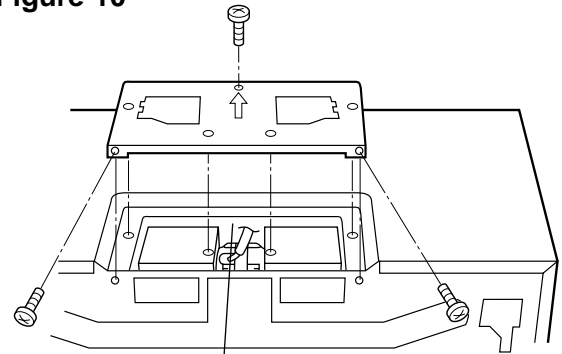

Figure 12
4. Put the lead wire into Wire Box. See Figure 12.
5. Replace the Fan Cover Bracket by sliding it into the slits in the same direction as the arrow on the Fan Cover Bracket. Make sure the fan blades are visible through the rear openings in the oven before proceeding. Attach Fan Cover Bracket to unit with 3 screws, which were removed in Step 1 above. See Figure 12. The Hood Fan Unit is now rotated for horizontal exhaust operation.
5. Replace the Fan Cover Bracket by sliding it into the slits in the same direction as the arrow on the Fan Cover Bracket. Make sure the fan blades are visible through the top openings in the oven before proceeding. Attach the Fan Cover Bracket to unit with 3 screws, which were removed in Step 1 above. See Figure 12 on page 5. The Hood Fan Unit is now rotated for vertical exhaust operation.
6. Attach the Exhaust Damper Assembly ⑧ to the fan cover on the top of the outercase cabinet after mounting the oven. To attach the Exhaust Damper Assembly, refer to MOUNTING OVEN TO THE WALL, Step 7 on page 7.